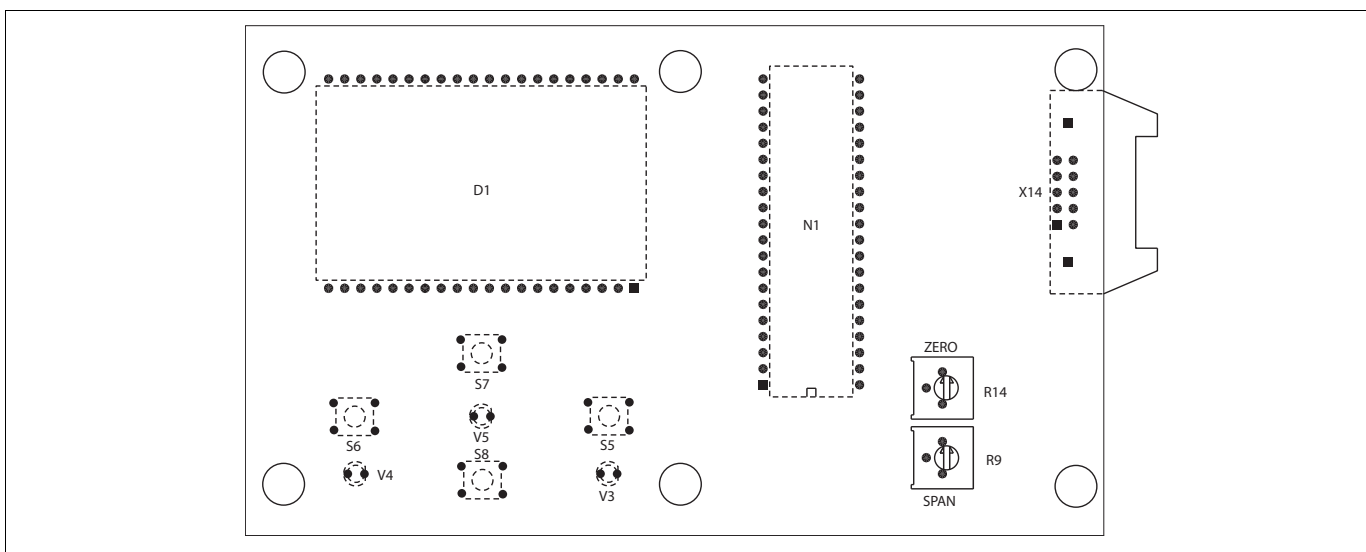
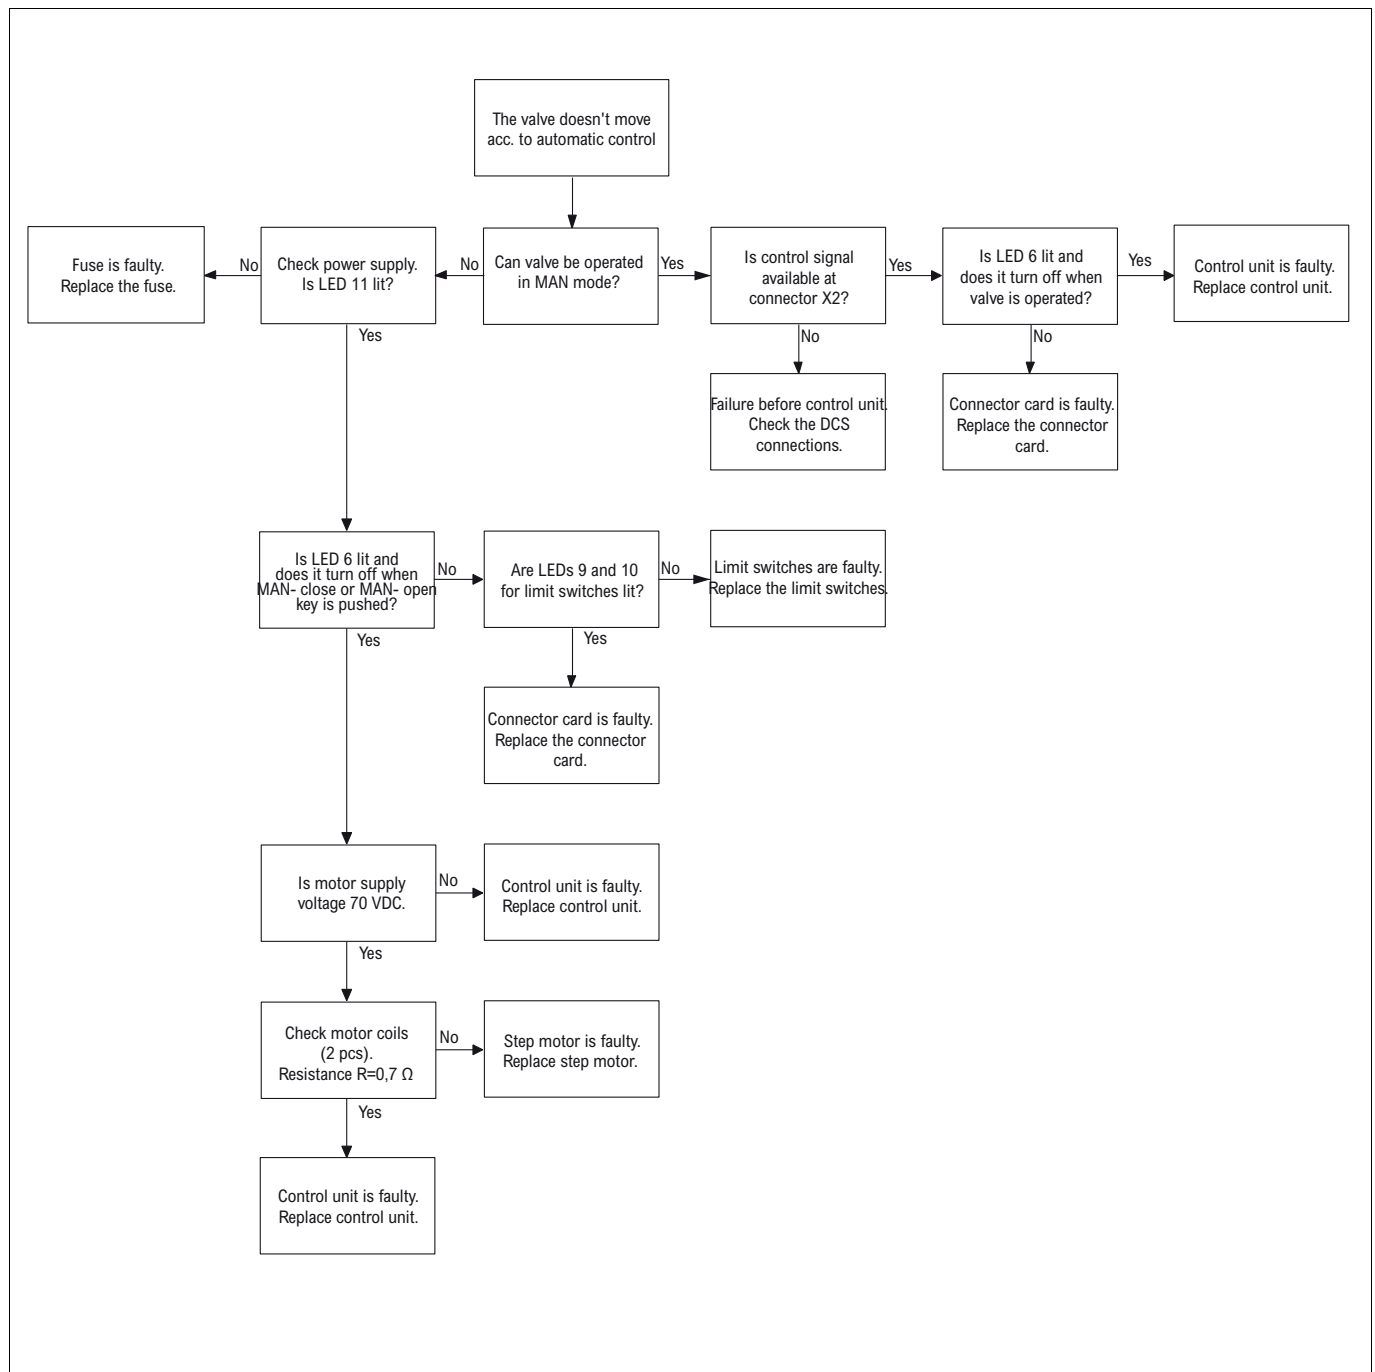

Fig. 16 Calibration potentiometers in display card
Fig. 17 Trouble shooting chart 1
In the following charts, Fig. 16 and Fig. 17, some failure situations have been presented. The charts refer to label (228) inside the controller and the LEDs of the controller, Fig. 5. IPCOMM communication program and instructions file can be also used in trouble shooting. The instructions file clarifies the functioning of application software. These charts are only applicable to correctly mounted and connected device. Installation and connection instructions are presented in Section 2.